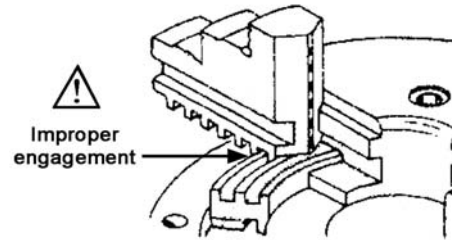

Figure 19 – Insufficient jaw tooth engagement
- Jaw teeth and scroll must be fully engaged, to prevent the jaws from breaking and being thrown from chuck (see Figure 19).